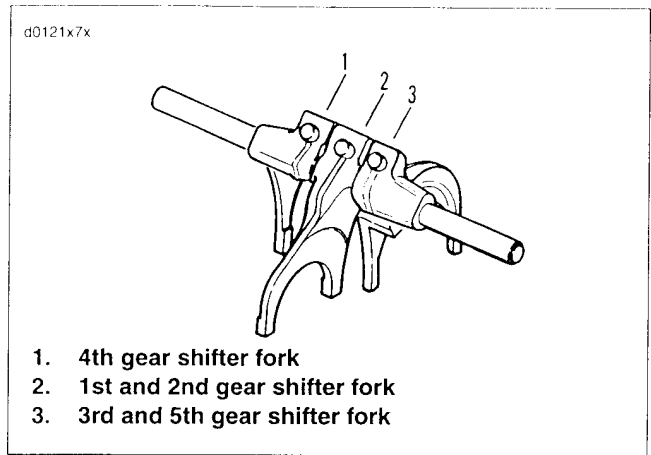

Figure 7-15. Shifter Fork Identification
1. See Figure 7-15. The forks are different from each other and are identified as shown.